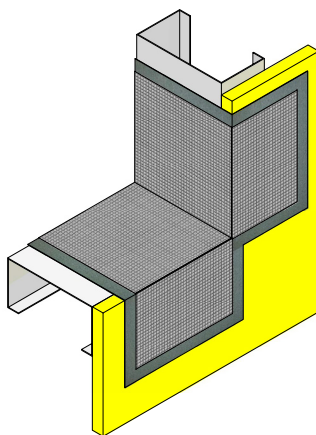

Figure 6
2. Cut Sheathing Fabric to desired size. Place the Sheathing Fabric into the wet Finestop RA/RS/VB. (See Figure 6)